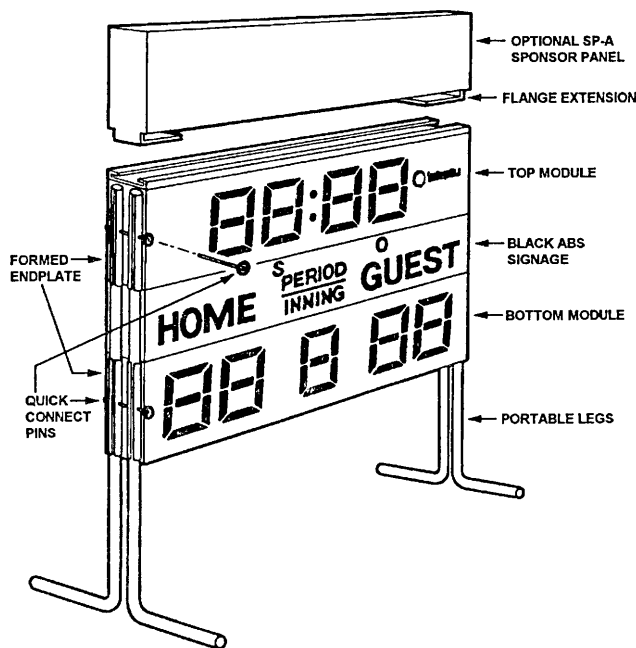

Figure 11: Portable Stands
Step 2: Place one leg from the portable stands into the module's formed endplate. Slide the leg into the endplate. See Figure 11. Align the portable leg's **top** pre-drilled hole with the hole in the endplate. Slide the quick-connect pin through the hole far enough to capture the first leg. Slide the second leg through the endplate and insert the quick-connect pin into the endplate.
Step 4: If you purchased a Sponsor Panel, Model SP-A, the sponsor module mounts above the top module as shown in Figure 11. Place the sponsor module above the top module. Overhang one end of the sponsor module and slide the flange extrusion into the top channel of the module. Repeat for the other side.